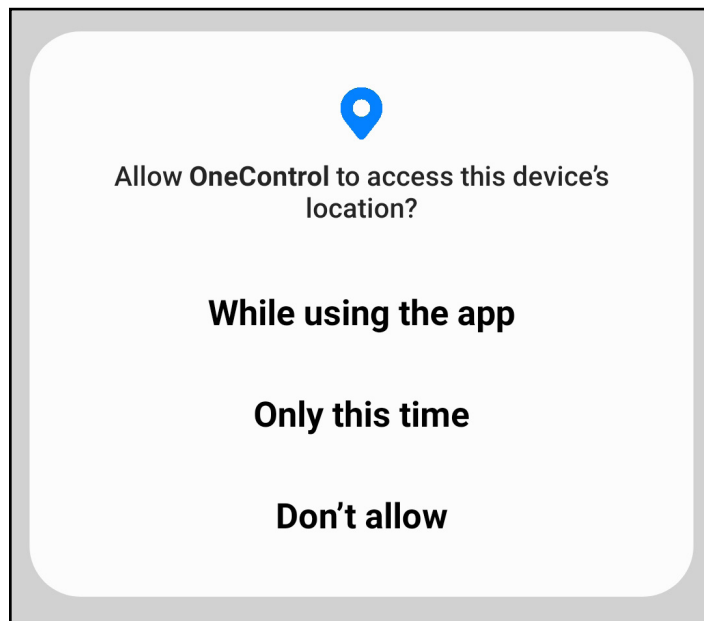

Fig.4
5. The app will ask permission to look for Bluetooth devices such as the LP Sensor (Fig.4). Press “OK” to grant permission for OneControl and the LP Sensor to communicate.